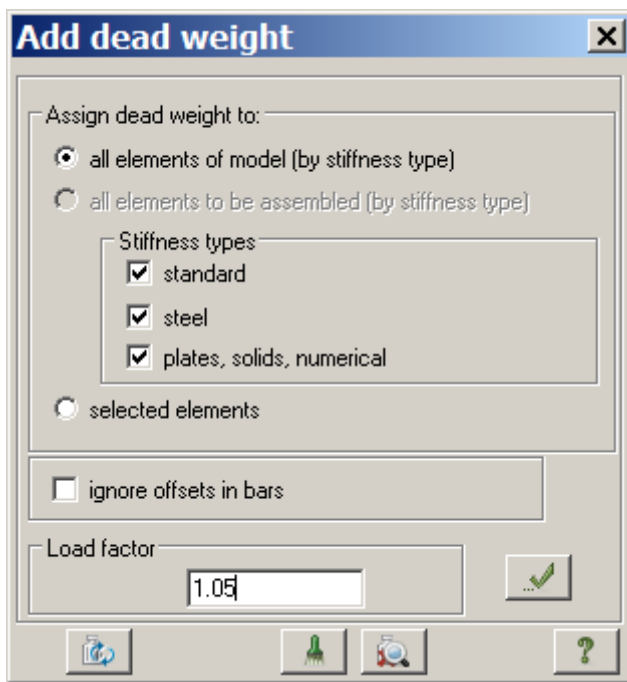

Figure 12.20 Add dead weight dialog box
- ⇒ In the **Add dead weight** dialog box (see Fig.12.20), click **All elements** and specify **Load factor** as equal to **1.05** (as in SRS-SAPR \(Steel Tables\) module the unit weight is specified as normative value, it should be converted to design value).